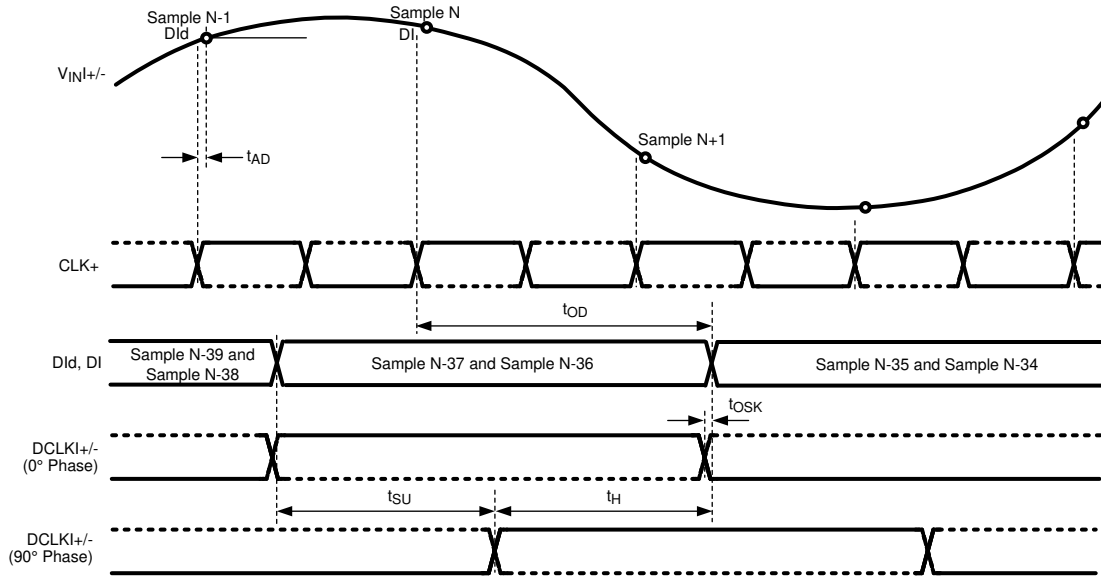
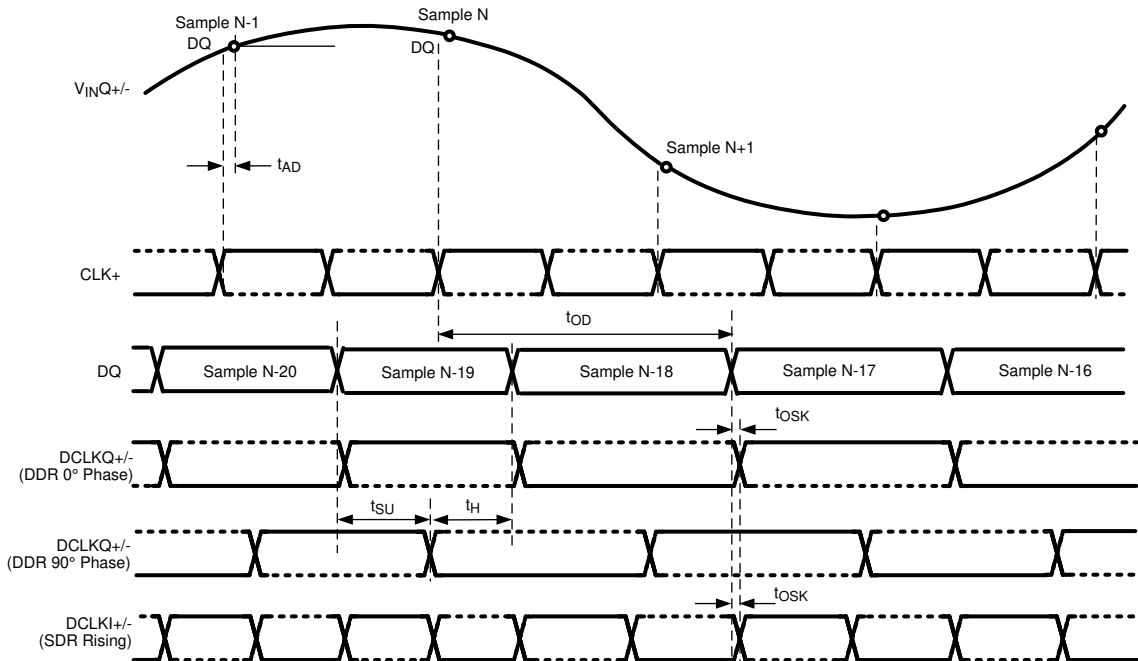

Figure 6-1. Clocking in Non-LSPSM, 1:2 Demux, Non-DES Mode*
Figure 6-6. Clocking in LSPSM, Non-Demux Mode, Non-DES Mode*
* The timing for Figure 6-1 through Figure 6-6 is shown for the one input only (I or Q). However, both I and Q inputs may be used. For this case, the I channel functions precisely the same as the Q channel, with $V_{IN I}$, DCLKI, DId, and DI instead of $V_{IN Q}$, DCLKQ, DQd, and DQ. Both I and Q channel use the same CLK.